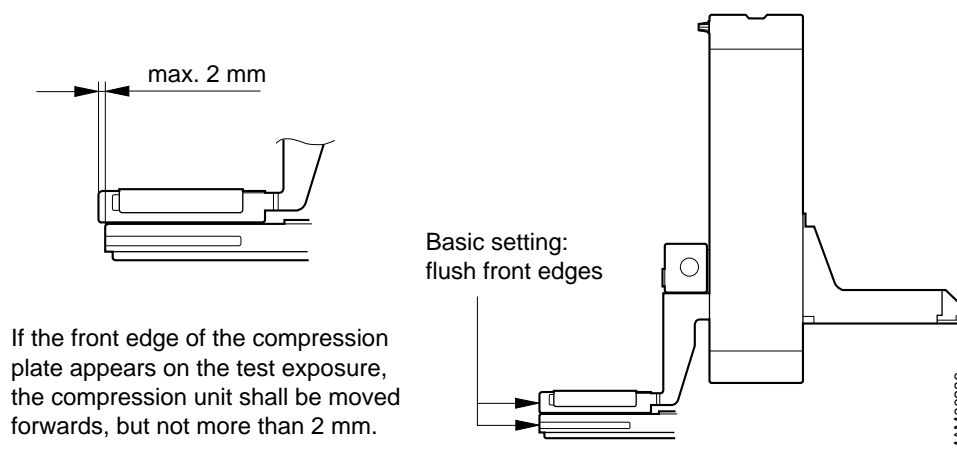

Fig. 17
- If the front edge of the compression cone is visible in the exposure, the position of the compression unit must be adjusted. However, the unit must not extend more than 2 mm. (Refer to the Fig. 17).